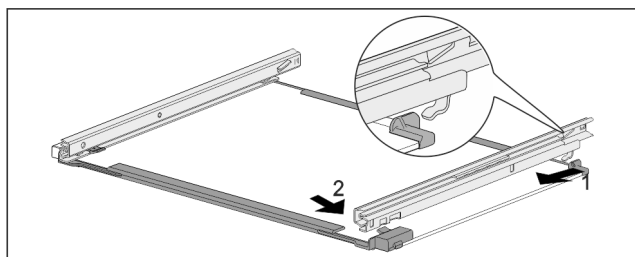

Fig. 160 Glass shelf with rails
- Hook in rail at the back. Fig. 160 (1)
- Hook in rail at the front. Fig. 160 (2)